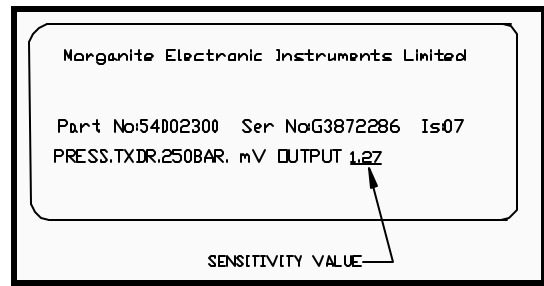

FIGURE 4.23 SENSOR SERIAL NUMBER PLATE
1. We recommend that a new sensor being installed closely matches the sensitivity of the old sensor. The sensitivity value is recorded on the serial number plate (Figure 4.23).